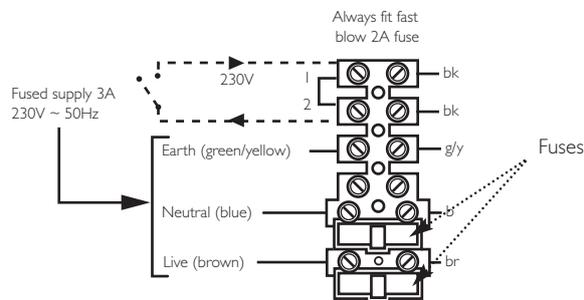

Fig. 50
6. Remove the link between terminals 1 & 2. The switched output from the external control must be connected to terminal 2. (Fig. 50).